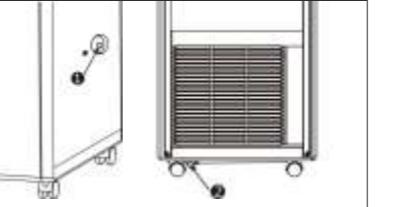

Fig. 10
When the condensate collection tank is filled up, water needs to be drained, otherwise the unit will not operate. Condensate should be drained by opening the lower plug at the device's base (Fig. 10 pos. 2).
4. Take the hose out to the drainage system to remove condensate; A hole designed for continuous condensate removal in the center of the device (Fig. 10 pos. 1) can be used for continuous condensate removal under conditions of increased humidity inside a room.
- When the unit is in cooling mode, it is not necessary to install the condensate drainage pipe since condensate evaporates automatically. Make sure that when the unit is operating, the rubber plug of the drainage hose is securely fixed (see Fig. 10).
- In heating mode, remove the rubber plug (2) of the drainage hose (Fig. 10), install the respective drainage hose to improve heating efficiency.
- In dehumidification mode, remove the rubber plug (2) of the drainage hose, install the respective drainage hose. Disconnect the air outlet hose, connect the drainage hose to the drainage hole and drain water from the unit to ensure maximum dehumidification efficiency.
- "E4" signal is shown on the LCD display at the maximum water level (for AC TIM 9H P3, AC TIM 12H P3, AC TIM 14H P3). As for AC TIM 5H P3 and AC TIM 7H P3, "FULL" indicator is on in this case. To resume the operation, remove the rubber plug (2) of the drainage hose to drain water at first. After water is drained...